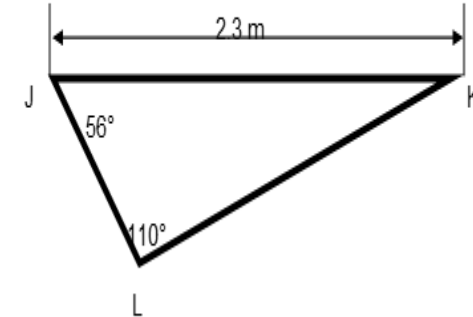

Figure 1 – Not to scale
- 7 The shape in Figure 1 must be accurately measured before manufacturing. Calculate the length of side KL.